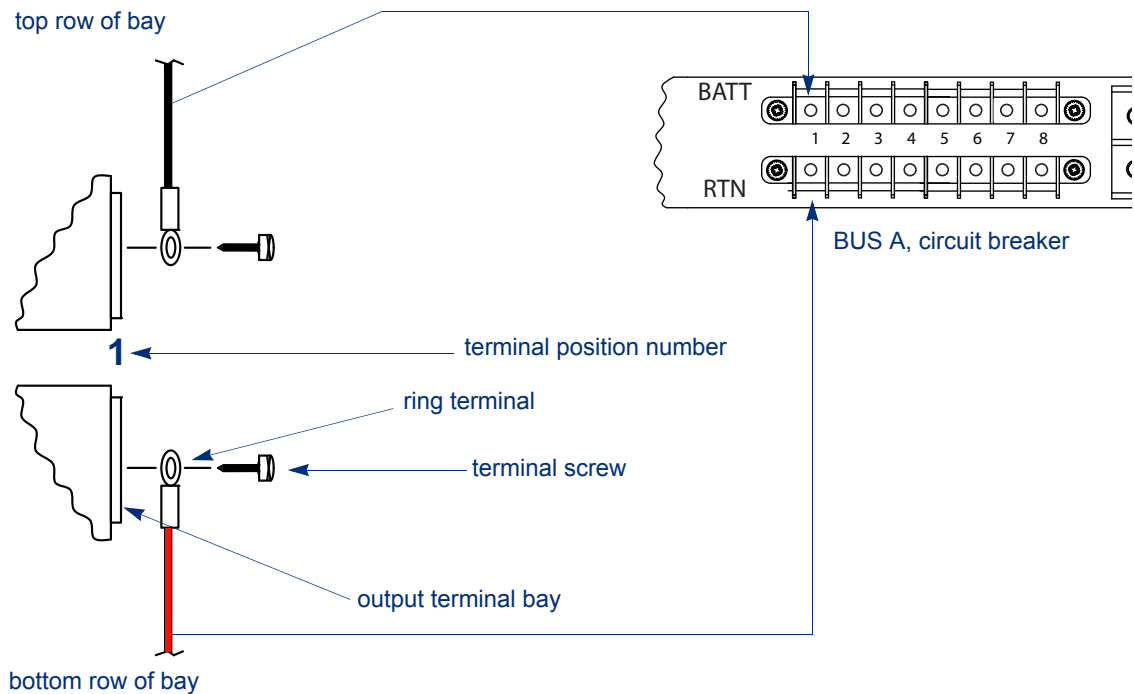

Figure 9. Circuit breaker output power ring terminal assembly
6. On the rear of the circuit breaker, place one side of a set of the #10 AWG ring terminals over the top and bottom number 1 slots of BUS A's output terminals as shown in Figure 9.